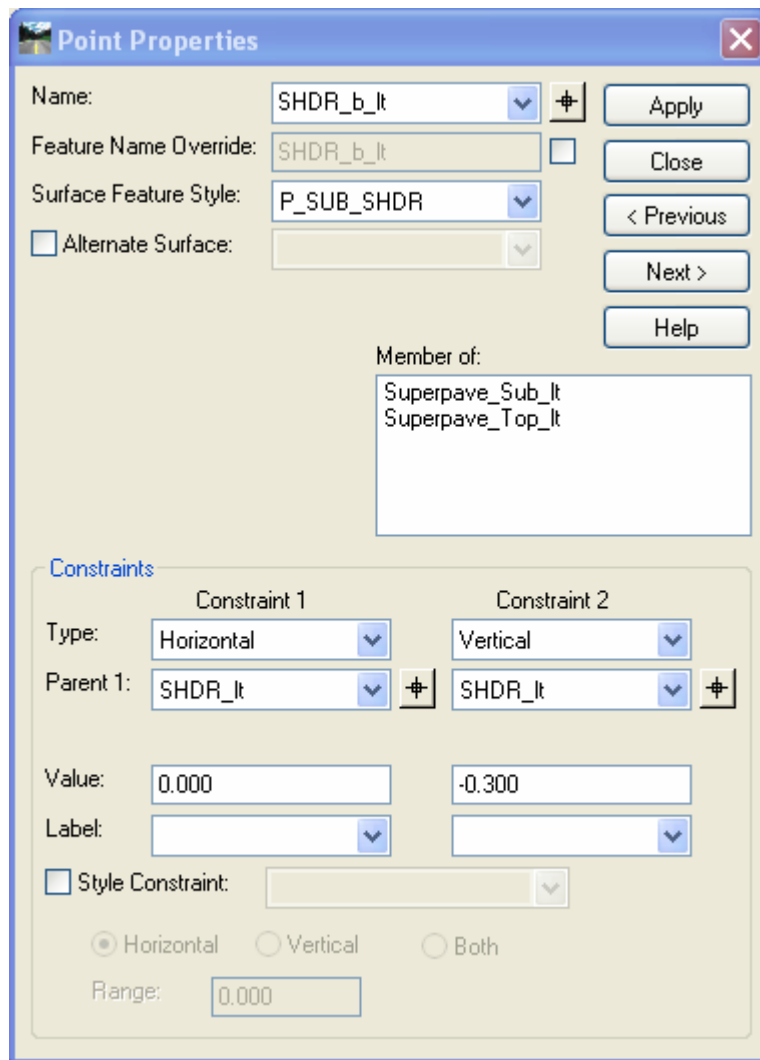

Figure 6-20 InRoads Point Properties Dialog Box
- Q. Go back to the **Create Template** and select the **Local_Rdwy** template. Click on point **SHDR_b_rt** and change the constraint 2 value to **-.300**. (See Figure 6-20 below). Continue entering the same value for all the points on this layer (**CL_b**, **EOR_b_rt**, **BOC_b_rt**, **EOR_b_lt**, **BOC_b_lt** and **SHDR_b_lt**).